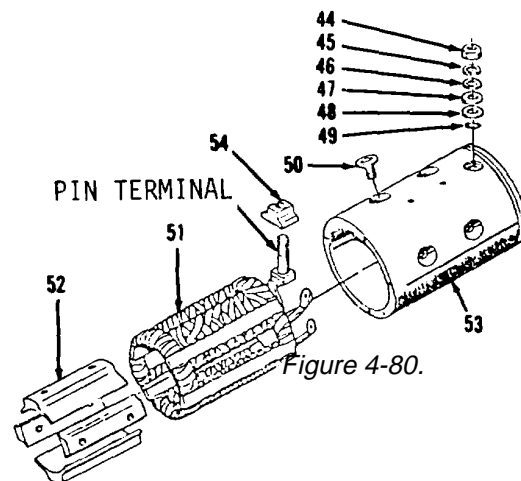

Figure 4-80.
1. Install bushing (54) on field coil (51, Figure 4-80) pin terminal.
2. Position four pole shoes (52) in field coil (51) the same way as marked.